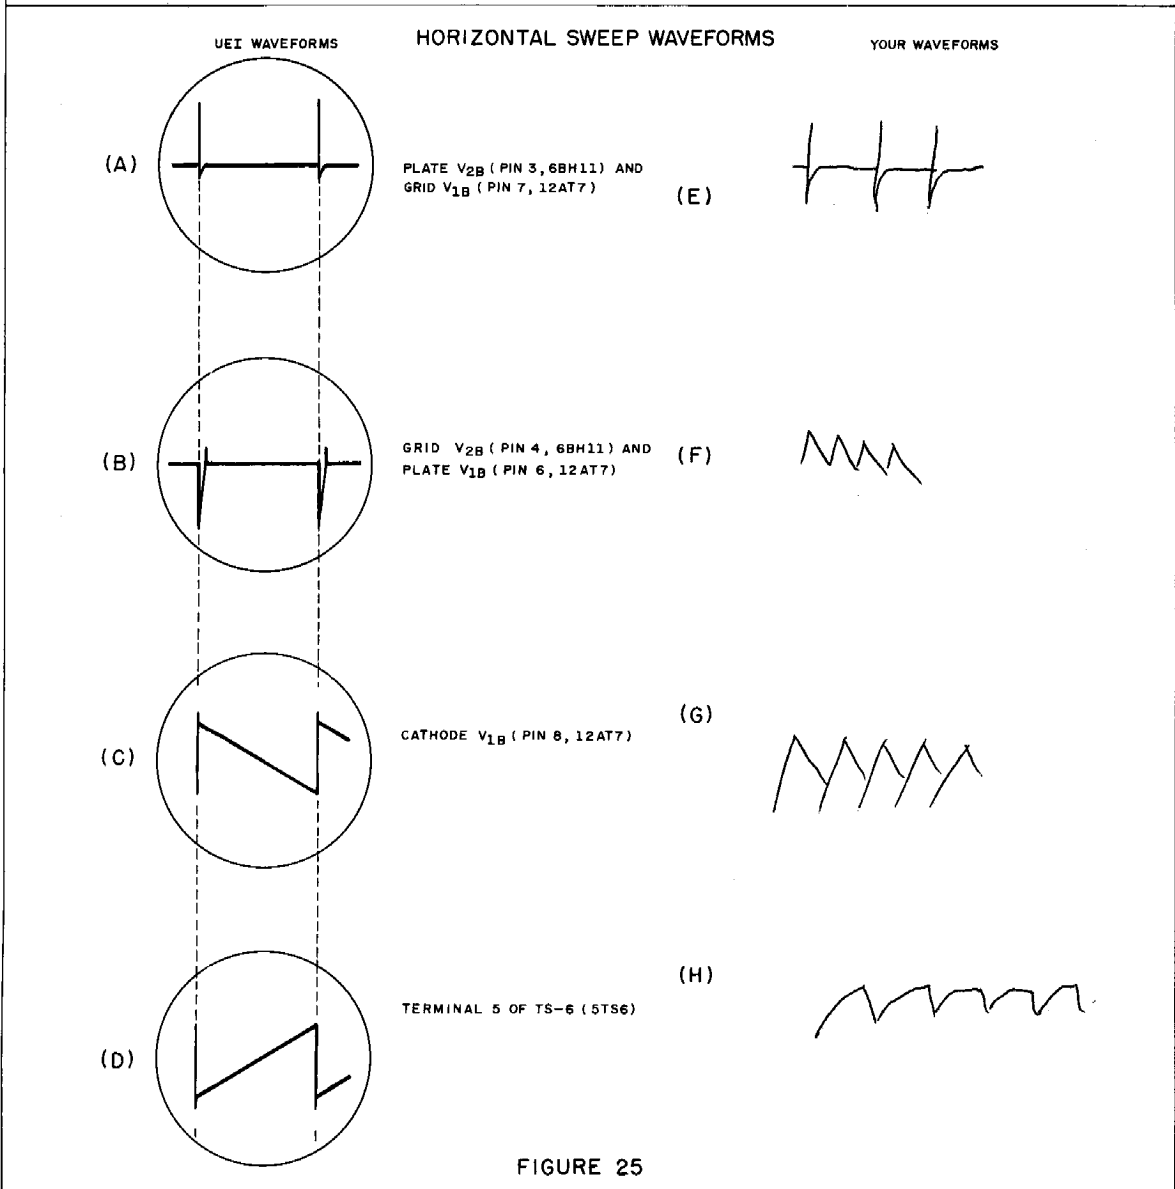

FIGURE 25
Set your CRO to the 30–500-Hz sweep range with sweep control near full clockwise. Take those waveforms as indicated in Figure 25. Draw sketches of your waveforms in the spaces provided in Figures 25 (E) through (H). The amplitude of the waveforms shown in Figures 25(A) through (C) is approximately 25 volts peak-to-peak. The amplitude of the sweep waveform of Figure 25(D) is approximately 170 volts peak-to-peak when the horizontal trace of the CRO under test fills the CRT when the trace is centered.